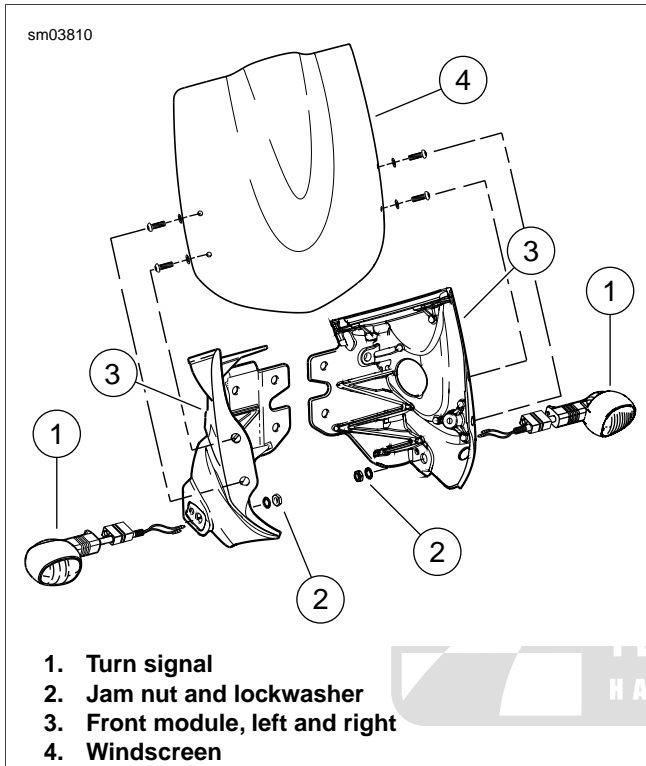

Figure 6-50. Front Turn Signals: Lightning
3. See Figure 6-50. Remove jam nut and lockwasher (2) from inside of front module (3).
4. Pull bullet connectors and wiring through hole in front module (3) and remove turn signal (1).
1. See Figure 6-50. Insert bullet connectors and wiring through hole in front module.